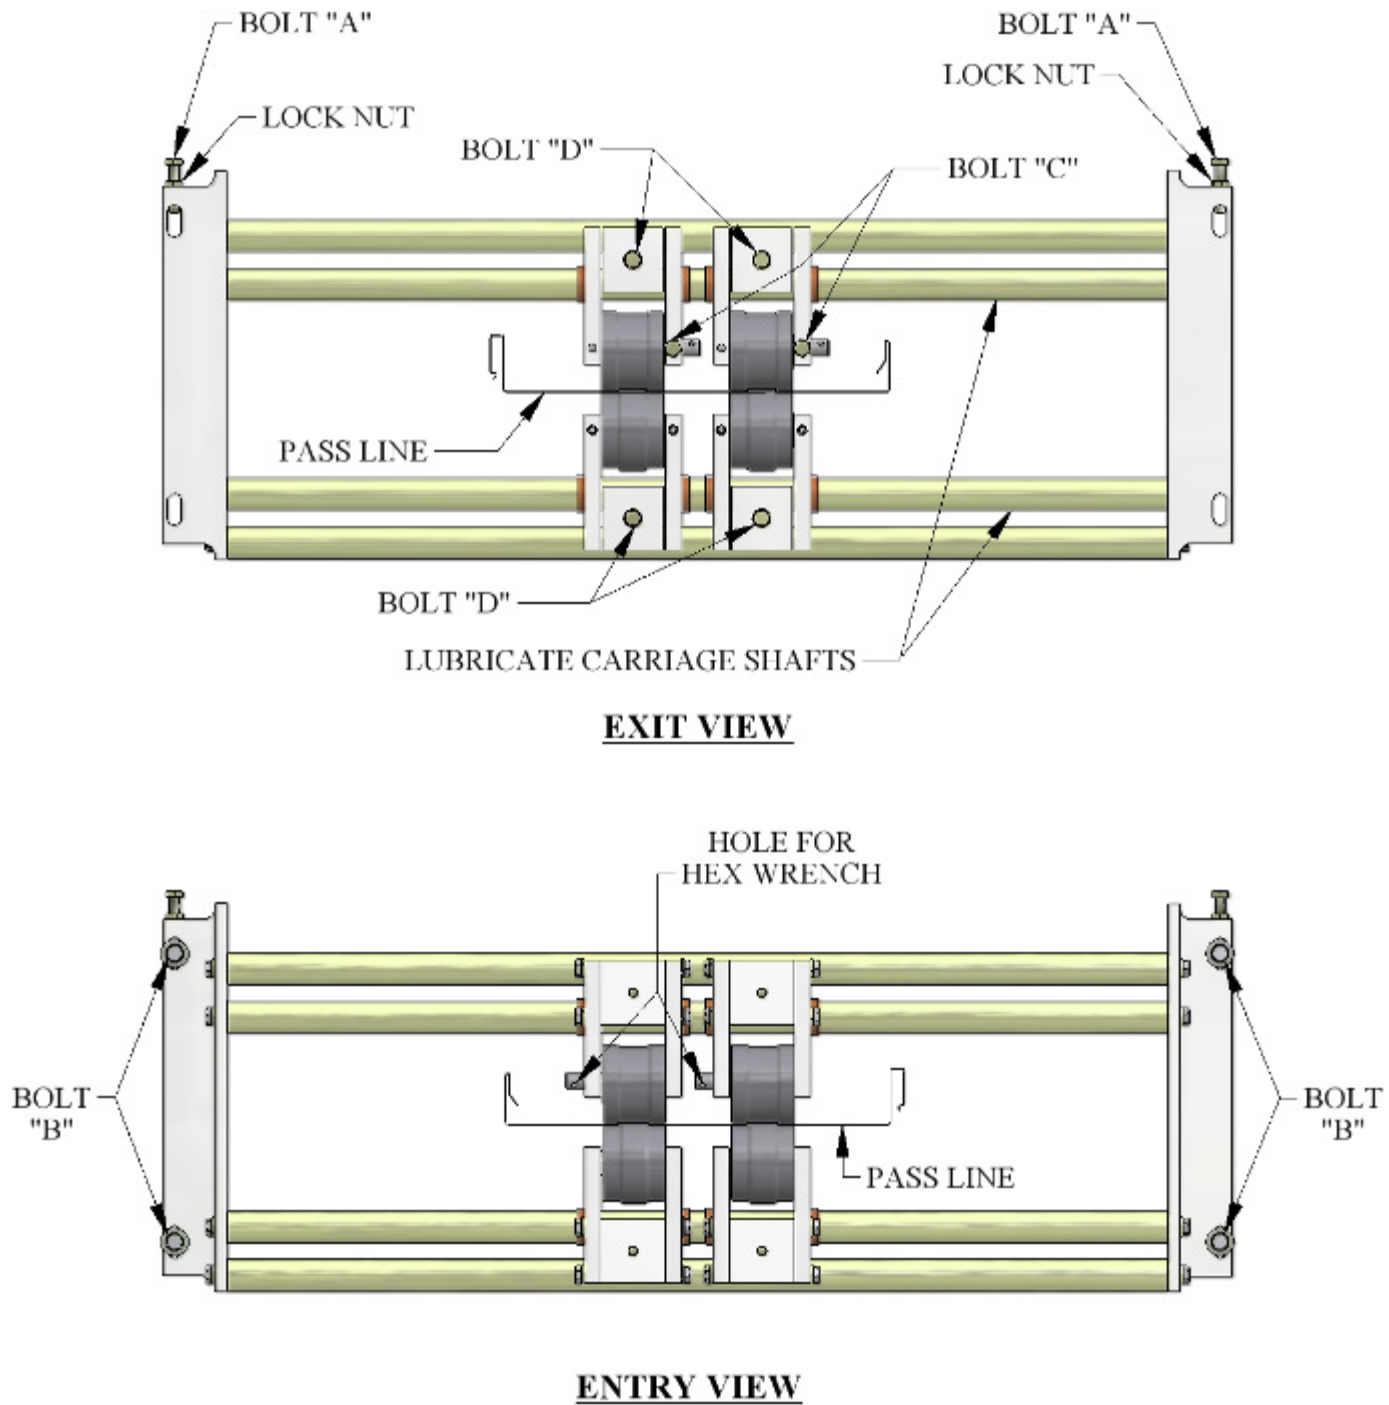

Figure 21: Bead Roller Assembly
1. The Bead / Striation Roller assembly (Figure 21) is located behind the shear and is accessed by removing top cover #3. These rollers can be engaged or disengaged as needed and can also be moved left or right to accommodate different panel widths.
7. Start the machine and use the Jog button on the Manual Control Box or Computer, to jog the material through the machine 6 to 8 inches at a time until it exits the last forming stations, and is about 1" from the Bead Roller Assembly. (Figure 21).